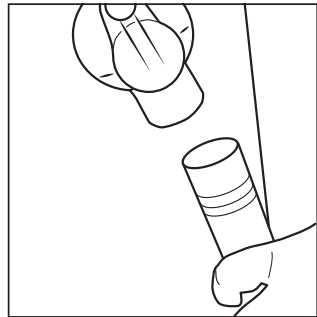
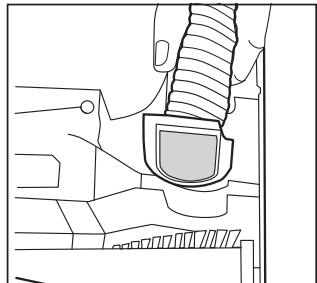

Fig. 3
Fig. 4
2. If the above step is not enough, remove hose cuff from the attachment port inlet (Fig. 3). If you haven't located the clog, turn the vacuum cleaner over and remove the bottom plate. Check nozzle inlet tube for obstructions (Fig. 4). Clear tube and reinstall the bottom plate.